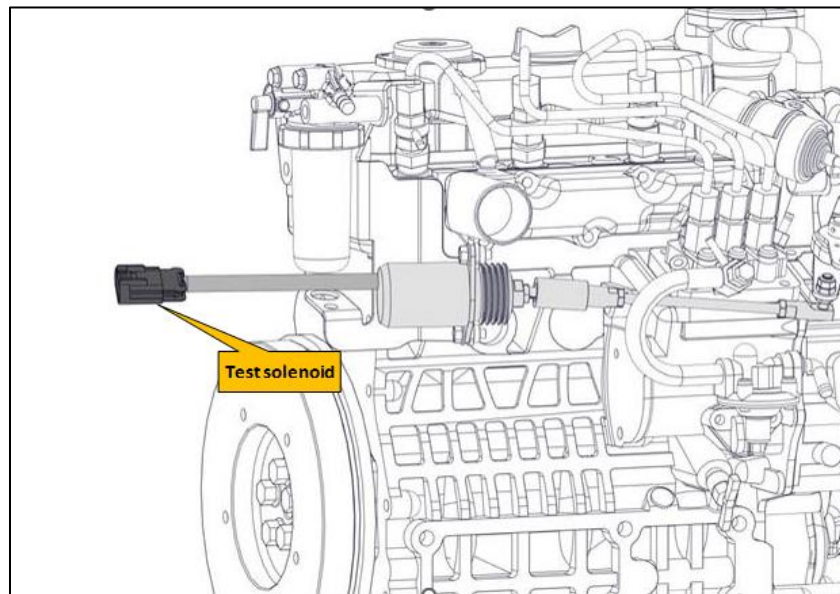

Figure 7– Throttle solenoid.
- ☐ Test the throttle solenoid (Figure 7)